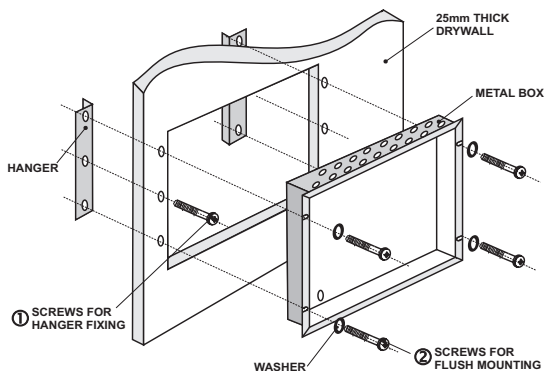

Figure 7.
- Attach the hangers to the internal side of the wall and fix them with the screws (Position 19, page 31), as shown in Figure 7, Position 1.
- Run all external cables in the box and then place it into the mounting opening. Fix the bottom using the mounting screws and washers (Positions 17 and 18, page 31) - Figure 7, Position 2.